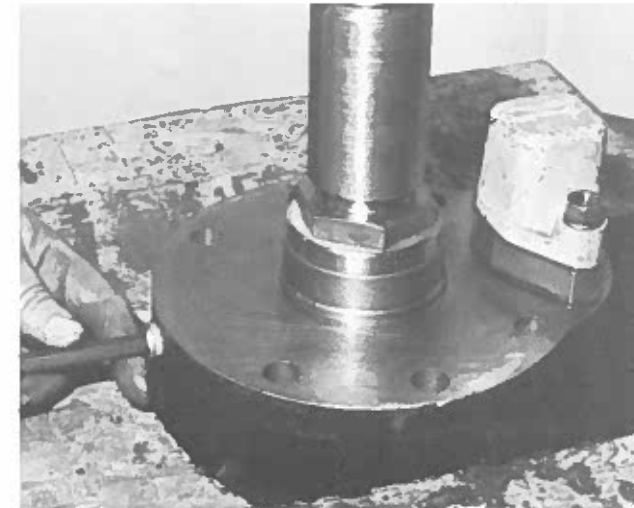

Figure 7 — Venting the Motor (Preliminary)
7. Refer to Figure 7. Using wrench provided, back off the vent plug (609) to vent top end of motor.